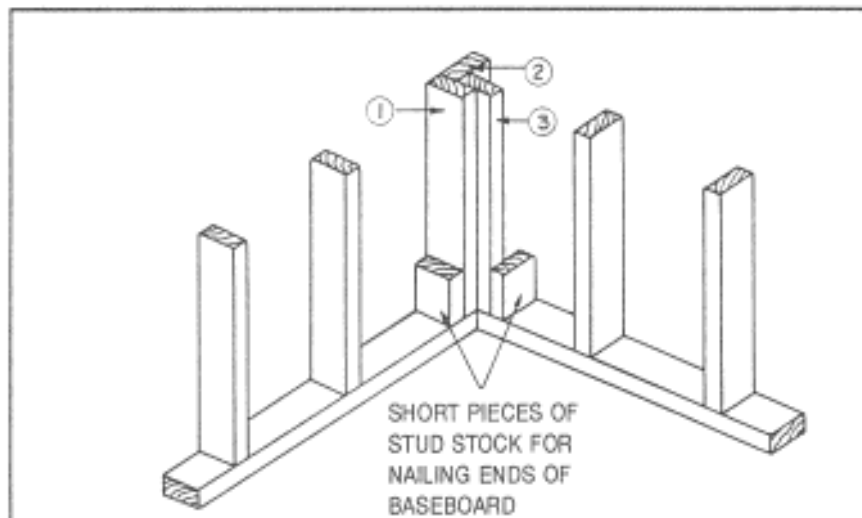
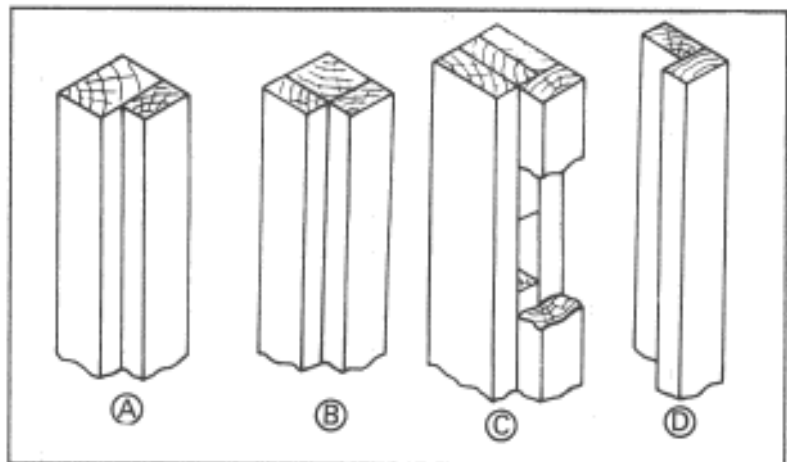

Figure 6-30. Corner-post construction using ordinary 2 x 4 studs
Figure 6-32. Corner-post construction using both 2-inch and 4-inch lumber
A corner post forms an inside corner and an outside corner which provides a good nailing base for inside wall coverings. Figures 6-30, page 6-24, and 6-31, page 6-25, show two of the most common types of corner posts as they would appear constructed. The studs used at the corners of frame construction are usually built up from three or more ordinary studs to provide greater strength. These built-up assemblies are called *corner posts*. They are set up, plumbed, and temporarily braced. Corner posts may also be made in any of the following ways (Figure 6-32):
- A 4x 6 with a 2 x 4 nailed on the board side, flush with one edge (Figure 6-32, A). This type of corner is for a 4-inch wall. Where walls are thicker, heavier timber is used.
- A 4 x 4 with a 2 x 4 nailed to each of two adjoining sides (Figure 6-32, B).
- Two 2 x 4s nailed together with blocks between them and a 2 x 4 flush with one edge (Figure 6-32, C). This is the most common method.
- A 2 x 4 nailed to the edge of another 2 x 4, the edge of one flush with the side of the other (Figure 6-32, D). This type is used extensively in the TO where no inside finish is needed.